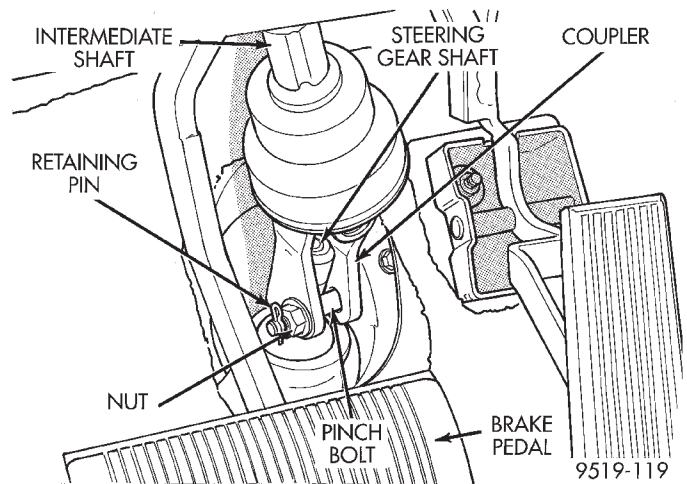

Fig. 4 Intermediate Shaft Coupler To Steering Gear Attachment
(2) Siphon as much power steering fluid as possible from the remote power steering fluid reservoir.
(3) From interior of vehicle, remove the retaining pin from the intermediate shaft coupler pinch bolt (Fig. 4). Then remove the pinch bolt (Fig. 4) from the intermediate shaft coupler and the separate intermediate shaft coupler, from steering gear shaft.
(4) Raise vehicle on jack stands or centered on a frame contact type hoist. See Hoisting in the Lubrication and Maintenance section of this manual, for the required lifting procedure to be used for this vehicle.